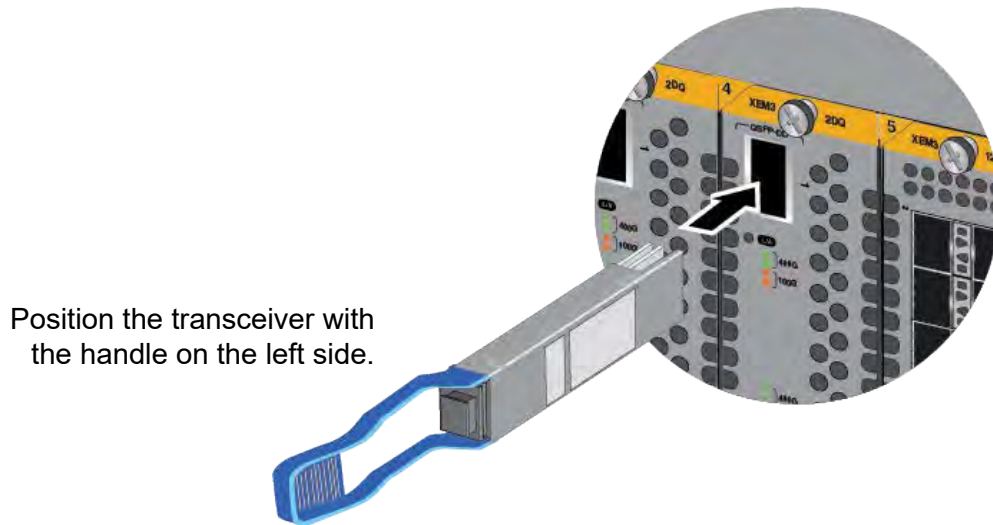

Figure 52. Example Installing an 100G QSFP28 Transceiver in the XEM3-2DQ Module
- XEM3-2DQ Module - For both ports, position the 100Gbps QSFP28 transceiver with the handle on the left side. Refer to Figure 52.